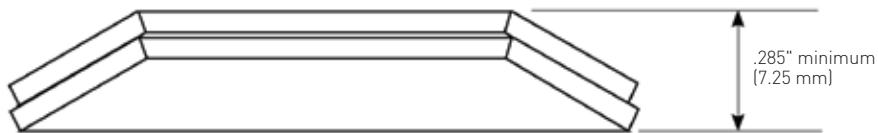

FIGURE 3A
5. Inspect the spring cones. Replace them if they are damaged or corroded or if the spring cones stack height is below .285 inch (7.25mm). See Figure 3A.